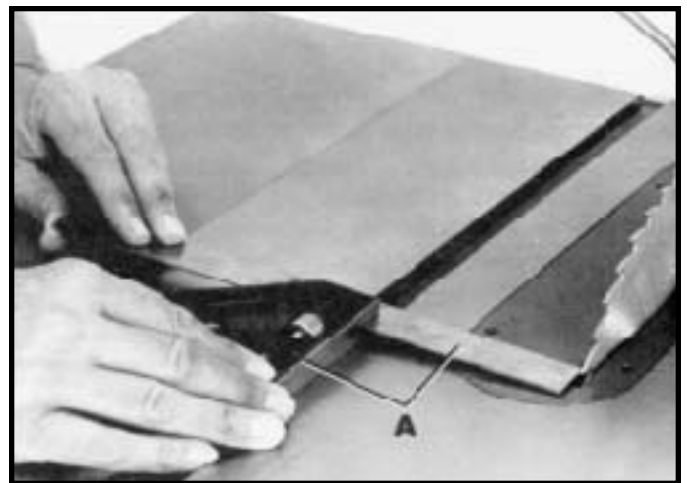

Fig. 57
2. Place a combination square (A) Fig. 57, on the table with one edge of the square in the miter gage slot, as shown, and adjust the square so the rule just touches one of the teeth on the saw blade at the forward position, as shown in Fig. 57. Lock the square in this position.